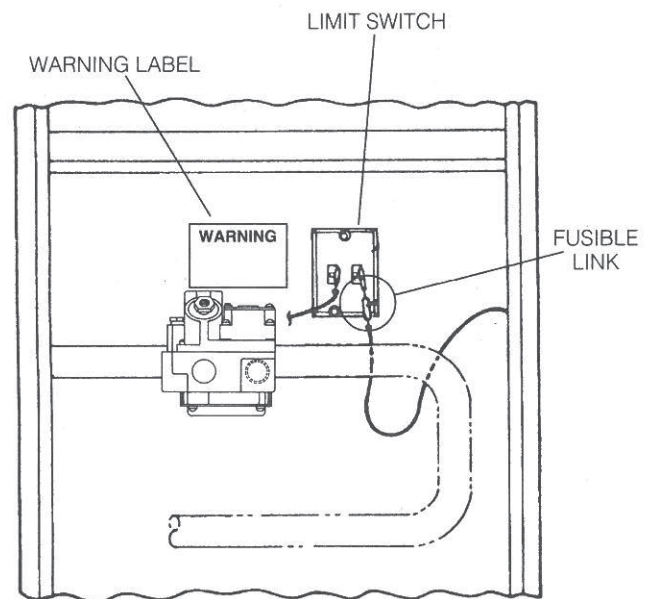

FIGURE 1
3. Locate the fusible link - see figure 1. Disconnect it from the limit switch.
8. Be sure the new fuse is positioned as shown in figure 1.
9. Peel the backing off the "yellow" sticker and place it on the furnace as shown in figure 1.